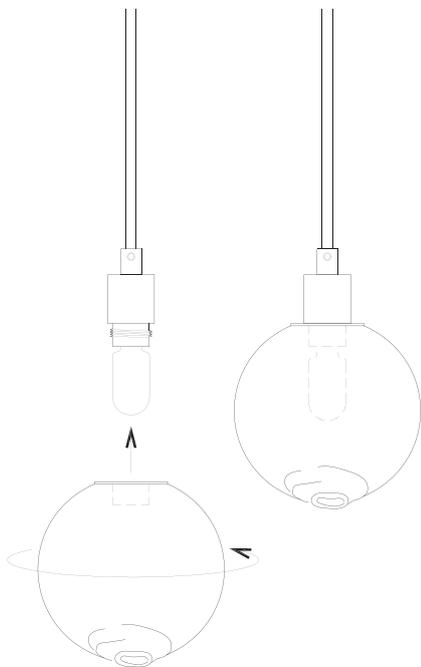

Figure 8. Install glass spheres by threading onto brass sockets
- 11 Unwrap the protective packaging from each of the 18 individual pendants. Install a light bulb in each socket (provided - 7W Max). Unwrap and lay out the 18 individual glass shades. Carefully thread a glass shade onto each socket (Figure 8). Thread the glass on just until they are visually tight - do not overtighten.